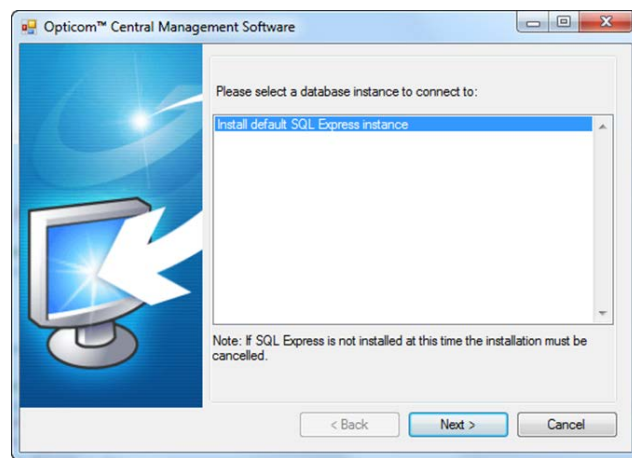

Figure 3-3
- b. Figure 3-3 shows an example of using SQL Express 2005.